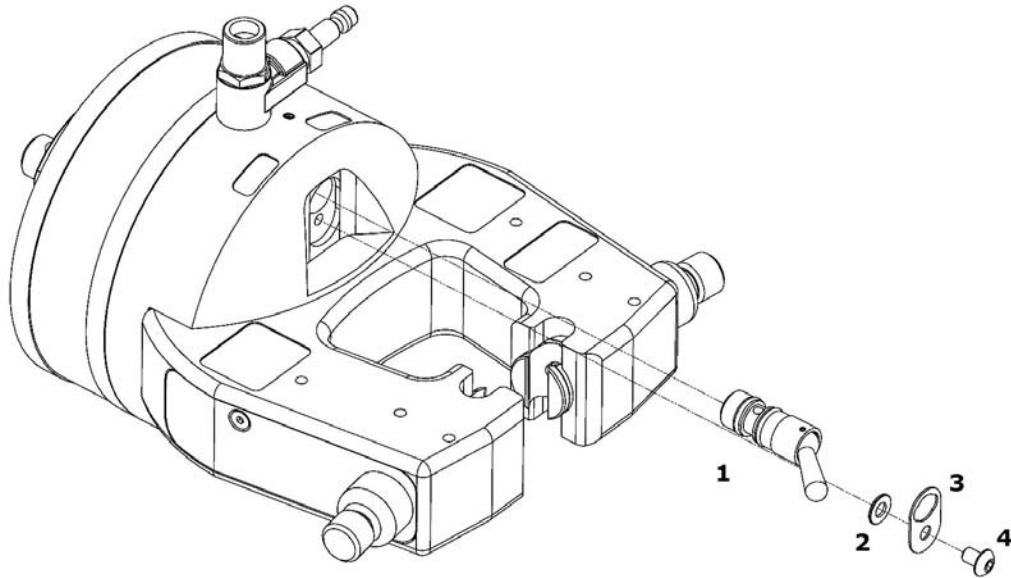

Figure 16. Install the toggle switch
1. Apply a small amount of Magnalube-G lubricant to the o-rings on the cartridge valve and push the valve into the bore as shown in Figure 16 on page 39.
Label on <a href="#">Figure 16</a>	Description
3. Put the screw through the deflector plate and washer (if provided) and thread the screw into the grip as shown in Figure 16 on page 39. The cartridge valve should sit inside the cutout on the deflector plate.